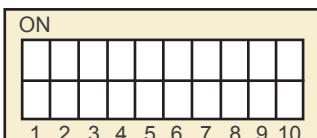

Fig. 4: Switching block
- 3 Set switches on the rear of the coin validator (Fig. 4) according to the right-hand table or configuration instructions below.